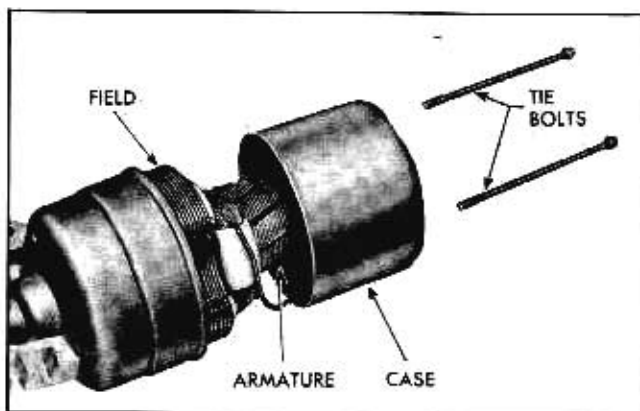

Fig. 11-77 Motor Case Removed
1. Remove motor tie bolts (Fig. 11-77).